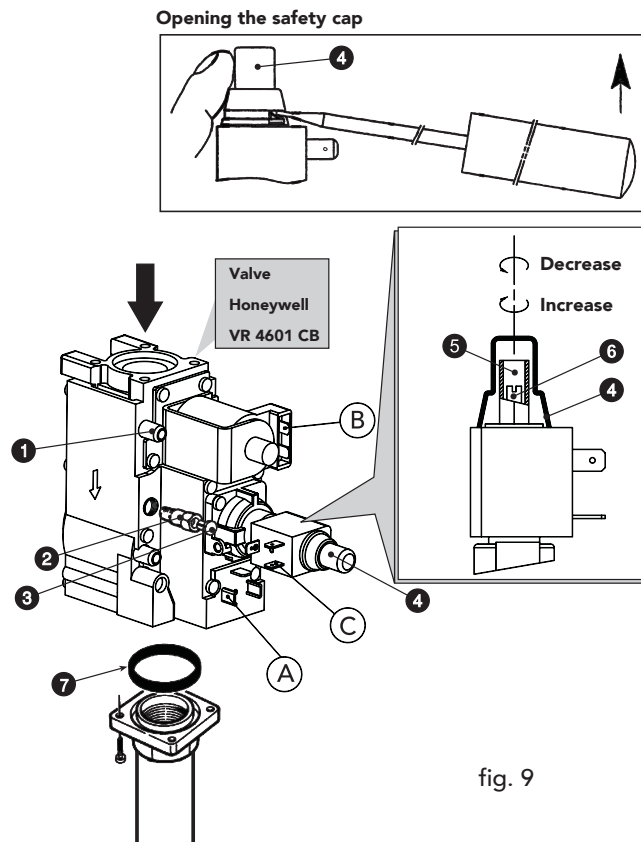

fig. 9
- 2 Remove the small plug 3 (Fig. 9) from the gas valve, screw the ignition "STEP" regulator 2, contained in the conversion kit, onto the valve and put the plug 3 back onto the regulator.
Carry out the same operations explained above, taking care to remove the ignition "STEP" regulator 2 in fig. 9 of the gas valve; the plug 3 in fig. 9 must be fitted directly onto the valve.